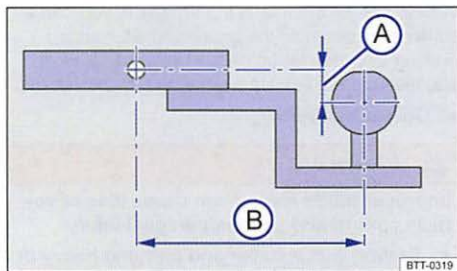

Fig. 91 Dimensions of the ball mount support.
The receiver used requires both a ball mount and a ball that meet special requirements regarding geometry and size. This applies to both the height of the ball above the surface where it attaches $\Rightarrow$ fig. 91 (A), and the pin-to-ball distance (B).